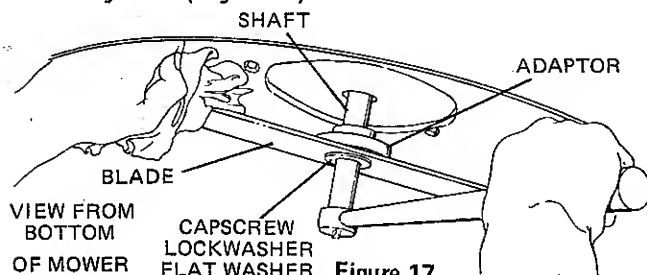

Figure 17
1. Do not attempt to remove the blade until you have the correct size box, socket or open end wrenches for the blade mounting bolts. (Figure 17)
3. Remove capscREW, lockwasher and flat washer attaching blade to engine shaft and adaptor (Figure 17).